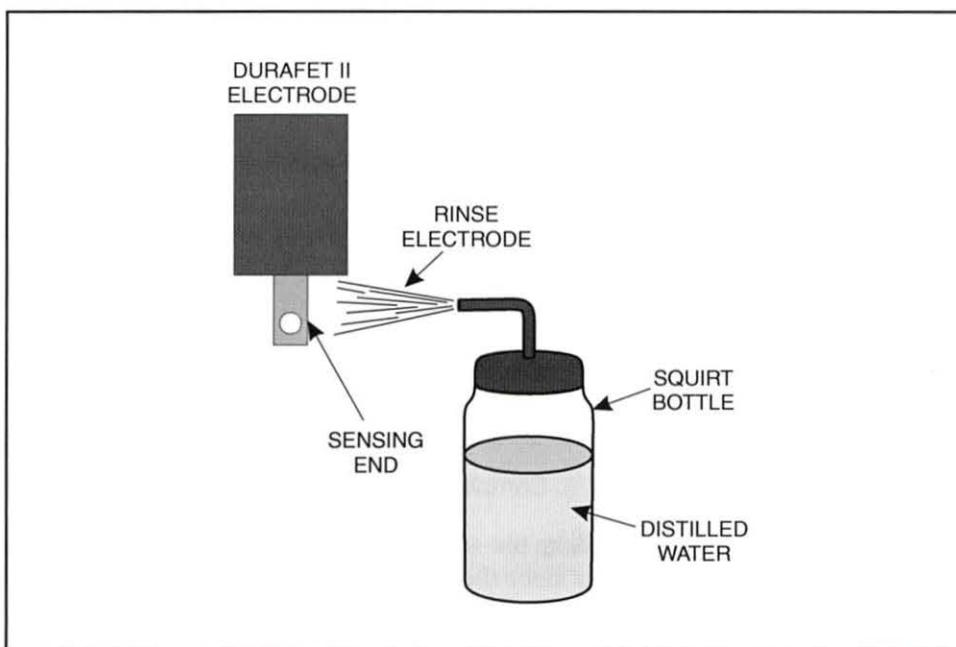

Figure 29. Rinse Electrode Sensing End with Distilled Water
Step 2: Rinse the sensing end using distilled water - Distilled water has a pH of 7 (neutral). It is best to use a squirt bottle, as shown in figure 29, to rinse the sensing end of the electrode. This includes any of the electrode housing that was in contact with the process solution. You can dip the end of the electrode in distilled water. However, this contaminates the distilled water and reduces the effectiveness. Dab the sensing end with a soft paper or cloth to remove any excess water. Do not rub the sensing end. Rubbing it can damage the electrode.